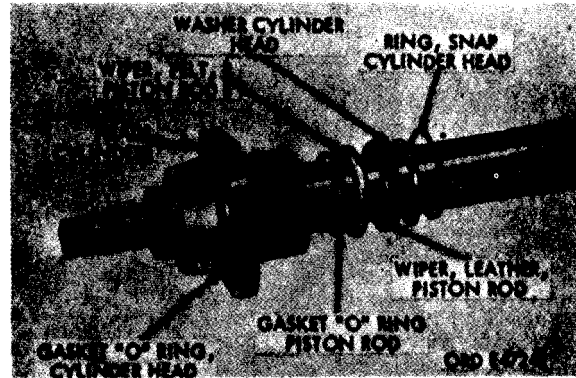
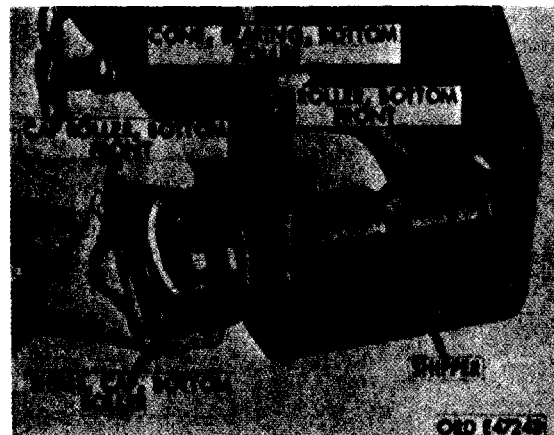

Figure 454. Cylinder head and seal assembly
Figure 455. Front bottom roller cap and shims installed
- (c) Slide cylinder head to piston end of piston rod and remove cylinder head snap ring, washer, piston rod leather wiper, felt wiper, and O-ring gasket from cylinder head (fig. 454). Remove cylinder head O-ring gasket (fig. 454) from cylinder head.
(4) Disassembly of shipper.
- (a) Remove four cap screws and lockwashers from each front bottom roller cap. Remove front bottom roller cap end shims from each side of shipper (fig. 455).
- (c) Remove front bottom roller (fig. 455) with collars and shims from shipper.
1. Position bottom roller collar shims (L and N) and front bottom roller collars (K and P) on front bottom roller (M). Position roller with collar and shims in end of shipper (D) and install bottom roller bearing cones (G and R) one each end of roller as shown in figure 455.
2. Use suitable adapter and press bottom roller bearing cup (H) in front bottom roller cap (J). Install bottom roller bearing cup (S) in front bottom roller cap (T) in the same manner.
3. Position bottom roller cap shims (Q) as removed, and front bottom roller cap (T) on shipper (D), and secure with four cap screws (W) and lockwashers (V). Follow same procedure for installing bottom roller cap shims (F) and front bottom roller cap (J).
4. If bushings were removed, press rear bottom roller bushing (MM and NN) in each end of rear bottom roller (LL). Position roller in shipper (D) and secure with rear bottom roller shaft (KK). Secure shaft with cap screws (HH) and lockwashers (JJ).
5. Use suitable adapter and install shipper pivot shaft bushings (CC and DD) in each side of shipper (D).